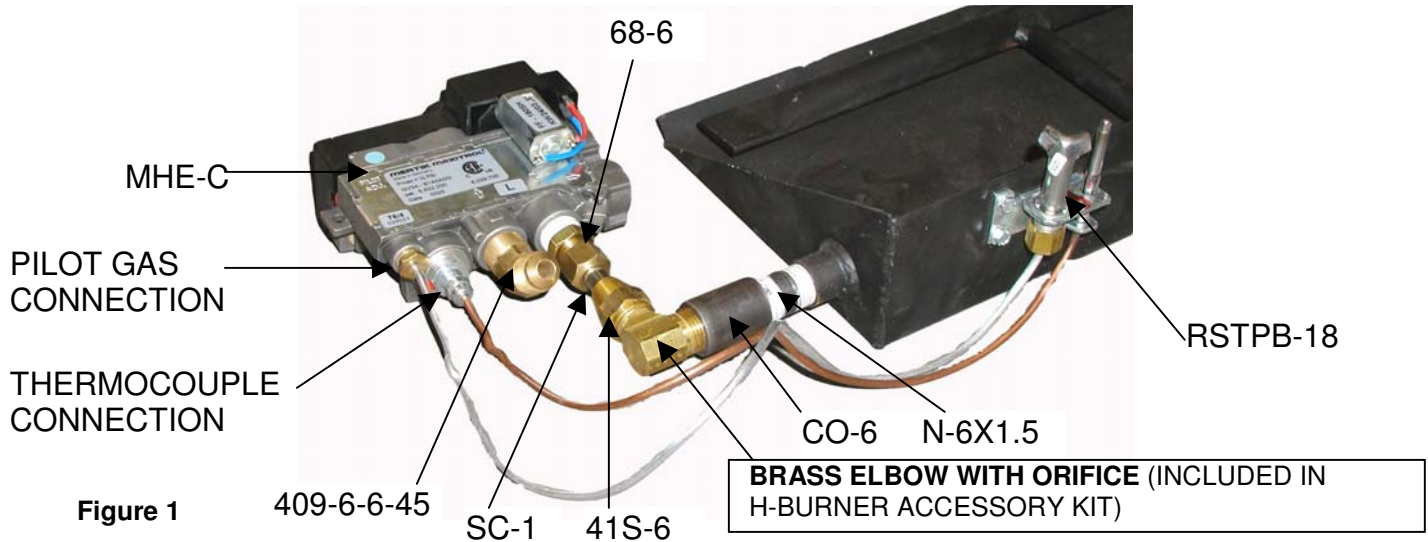

Figure 1
5. Use the #8 screws (not illustrated) to attach the RSTPB-18 pilot assembly to the back side of the burner pan in the pre-drilled holes. Attach the pilot so that the pilot burner is above the back wall of the Ember Burner pan. **See Figure 1**
Install the silver tubing from the RSTPB-18 into the pilot gas tap, turning until finger-tight. Tighten an additional 1 1/2 turns. **See Figure 1**
The thermocouple connector should be clean for good electrical contact. Run the thermocouple nut into the thermocouple connection as far as possible by hand. Turn the fitting an additional 1/4 turn. **See Figure 1**